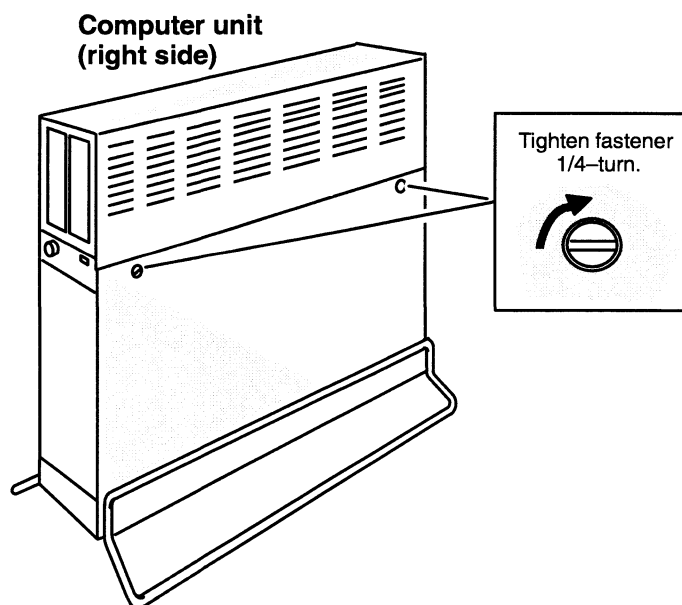

Figure 6-12 Tightening the Side Cover Fasteners
4. Using a coin or screwdriver, turn the two fasteners one-quarter turn clockwise as shown in Figure 6-12 to lock the cover in place.